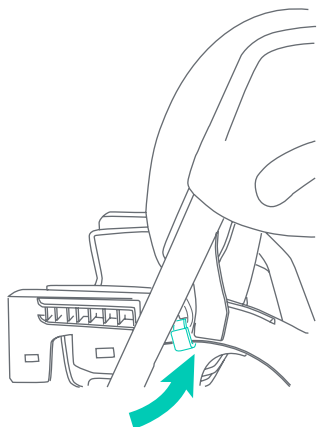
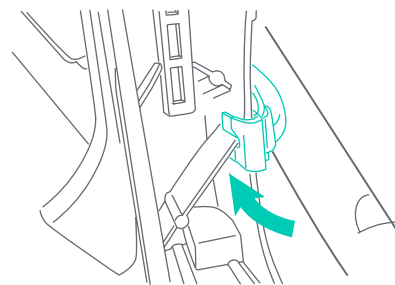

Fig. 7c
Fig. 7d
- Attach each anchor hook of the Seat Pad to the side of the seat armrest (Fig. 7c). Ensure that the slot of the anchor hook slides through the under side division (Fig. 7d).